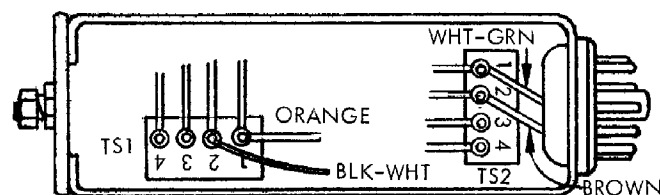

Figure 3
The ALTEC 455B 600/900 Amplifier (48 to 52V dc) is shipped wired for 600 ohm operation. If the amplifier is to be used in 900 ohm facilities, the input and output pair must be removed from terminals 1 and 2 of the terminal strips (TS1 and TS2, Figure 3) and transferred to terminals 3 and 4.
1. Unsolder the orange wire from terminal 1 (TS1, Figure 3) and resolder the wire to terminal 3.
1. Unsolder the green-white wire from terminal 1 (TS2, Figure 3) and resolder it to terminal 3.